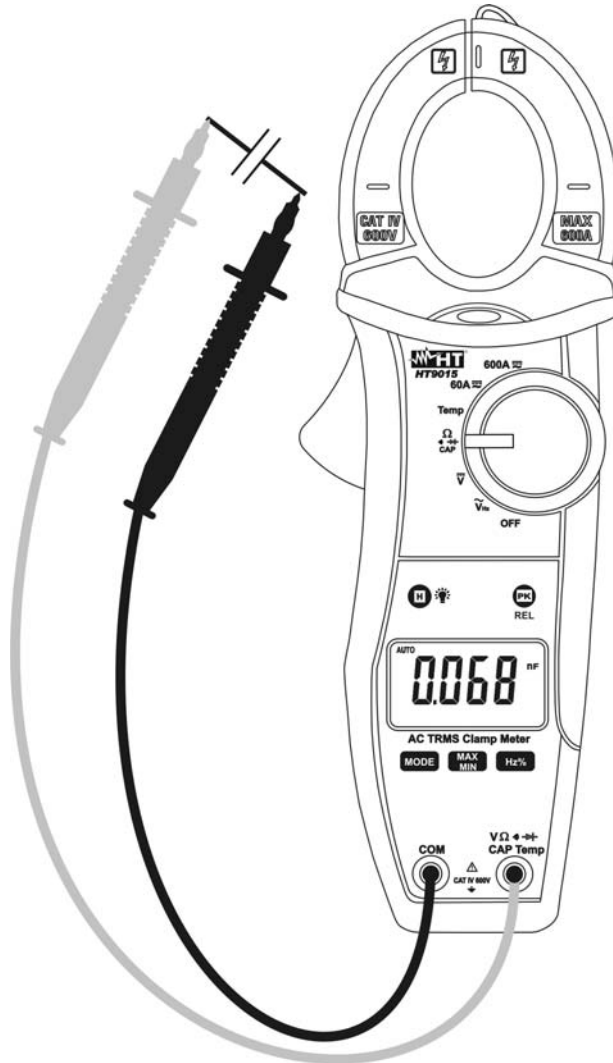

Fig. 7: Taking Capacitance measurement
3. Insert the red test lead plug into $V\Omega \cdot 1000 \rightarrow$ **CAPHZ%Temp** jack and the black test lead plug into **COM** jack (Fig. 7)